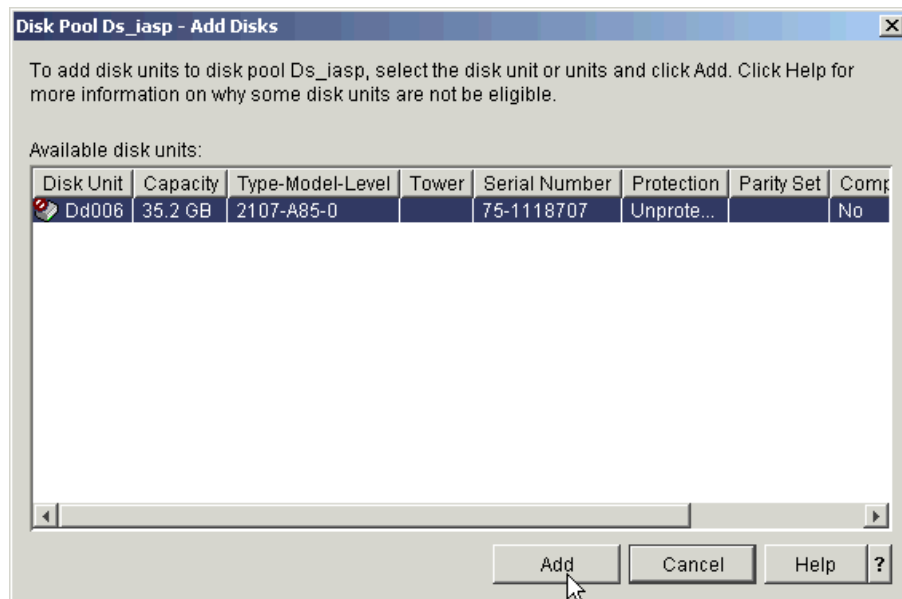

Figure 17-13 Choose the disks to add to the disk pool
10. A list of non-configured units, similar to the ones shown in Figure 17-13, appears. Highlight the disks you want to add to the disk pool and click **Add**.